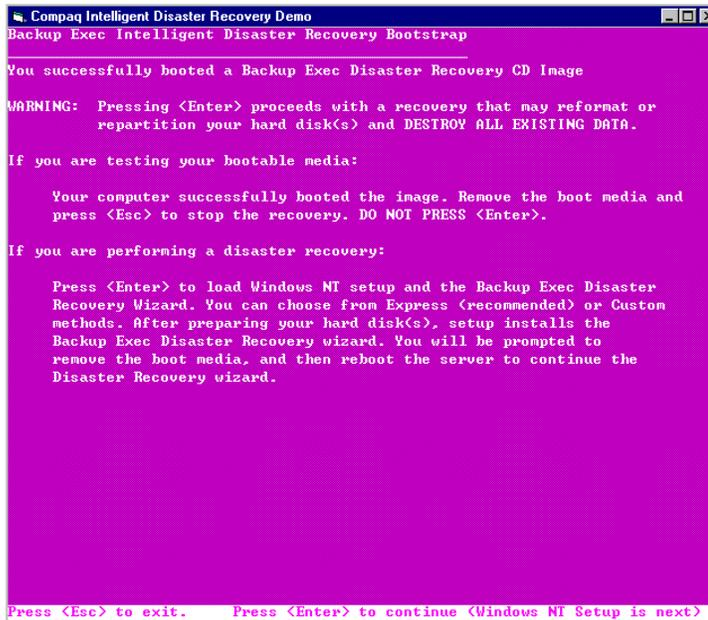

Figure 11: Operating System Loader screen
1. Figure 11 shows the first screen that displays when you have successfully booted the system from the DR-enabled tape media. A mini OS is now being installed on your system. Follow the screen prompts until you are directed to eject the tape media and reboot the system.